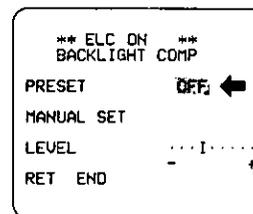

Fig. 55
- Press the Setup Mode Button (SET UP) to proceed to the Backlight compensation menu as shown in Fig. 55.